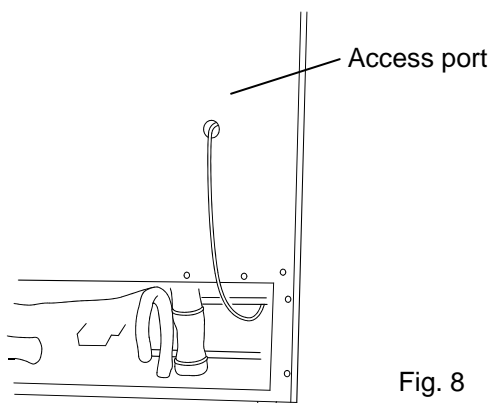

Fig. 8
8. Pass the recorder sensor into the chamber through the access port. Fig. 8